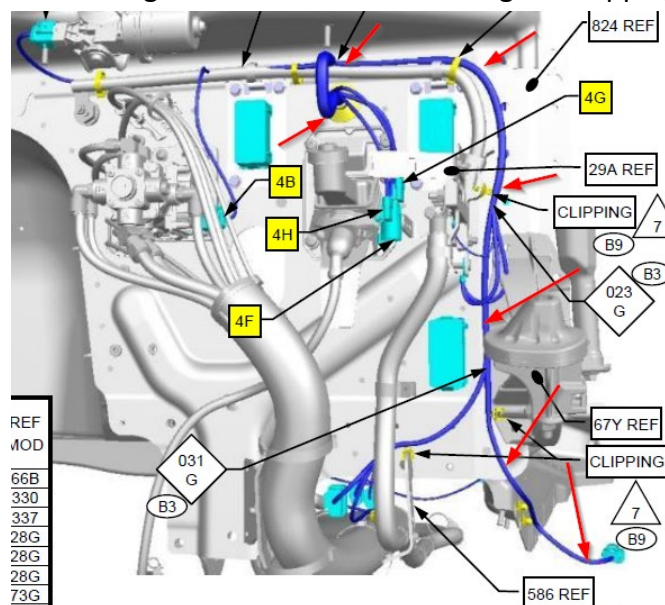
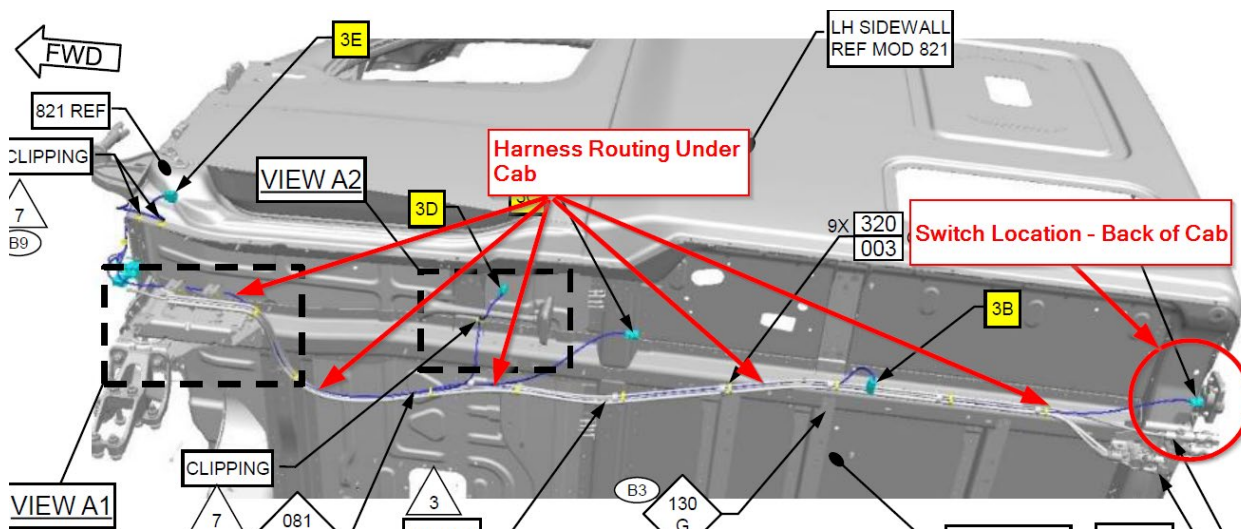

Fig. 16, Harness Routing from the Grommet Down Driver's Front Wall
Fig. 17, Harness Routing Under the Cab to the Battery Load Disconnect Switch
- 9.11. Route the harness from the firewall grommet down the driver's side front wall as shown in **Fig. 16**, and then under the cab as shown in **Fig. 17**, to the new battery cutoff switch location on a bracket at the back of the cab. Secure the new harness with cable ties to the existing harnesses or airlines as needed.